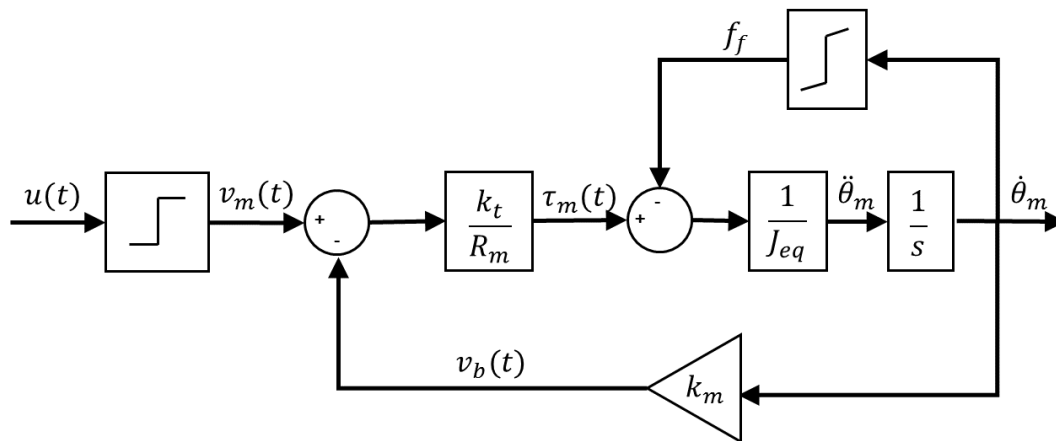
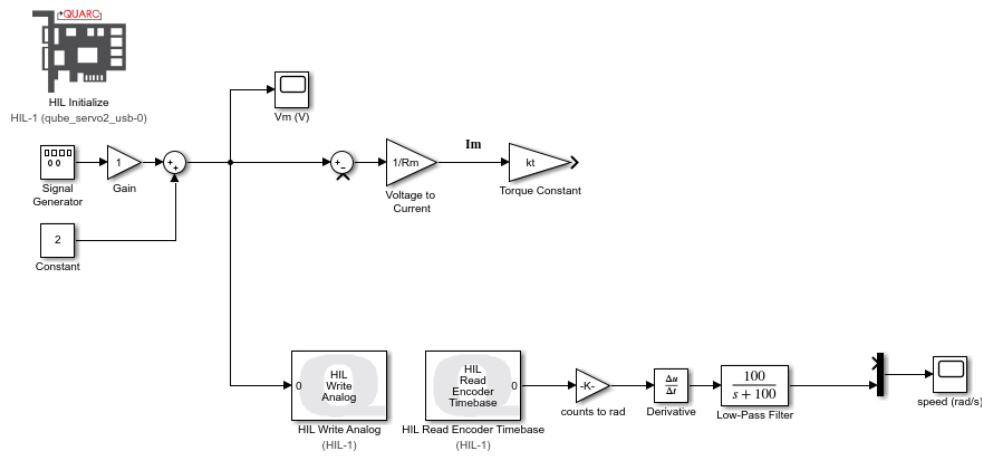

Figure 1.1: DC motor model with amplifier limit and Coulomb and viscous friction
Figure 2.3: Simulink/QUARC model used to identify Coulomb and viscous friction coefficients
The other main nonlinearities are due to Coulomb friction and quantization in the encoder. The block diagram of the DC motor shown in Figure 1.1 incorporates the amplifier limitation and the static friction nonlinearities. Encoder quantization and the associated noise was investigated in Filtering laboratory experiment.
1. Open the `q_qube2_friction_model_student` Simulink model shown in Figure 2.3.
3. Using the diagram of the QUBE-Servo 2 shown in Figure 1.1 and the various equations, complete the block diagram in Simulink, similarly as done in Block Diagram Modeling laboratory experiment using Gain, Subtract, and Integrator blocks. Part of the solution is shown in Figure 2.3. Attach a screen capture of the completed Simulink model.